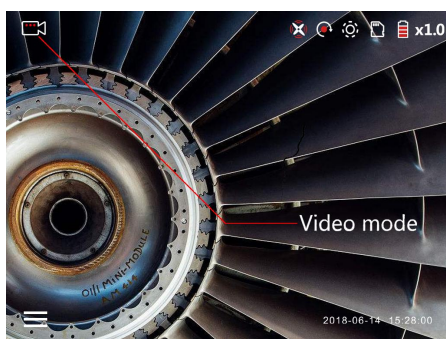

Figure 23
- 2) Video: Press the camera/video switch button  to adjust to the recording mode. The icon in the upper left corner of the screen shows the recording mode (Fig. 23). Press the camera/record button at the handle of the instrument  to start recording. At this time, there is a recording time prompt in the upper left corner of the screen. In the video mode, long press the camera/record button  to capture the video during the recording process, and short press to end the recording.